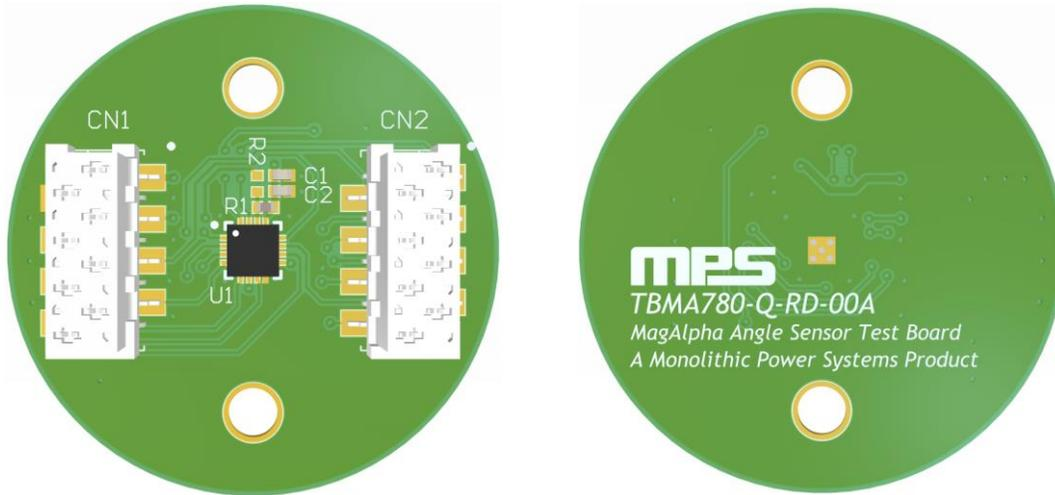

Figure 21: RD Board Overview Type 3
Figure 21 shows an overview of the Type 3 round (RD) board type.